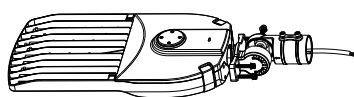

Figure 1
- Step 1: Unscrew the bracket mounting screws from the fixture and thread the wires through the bracket. (Figure 1)